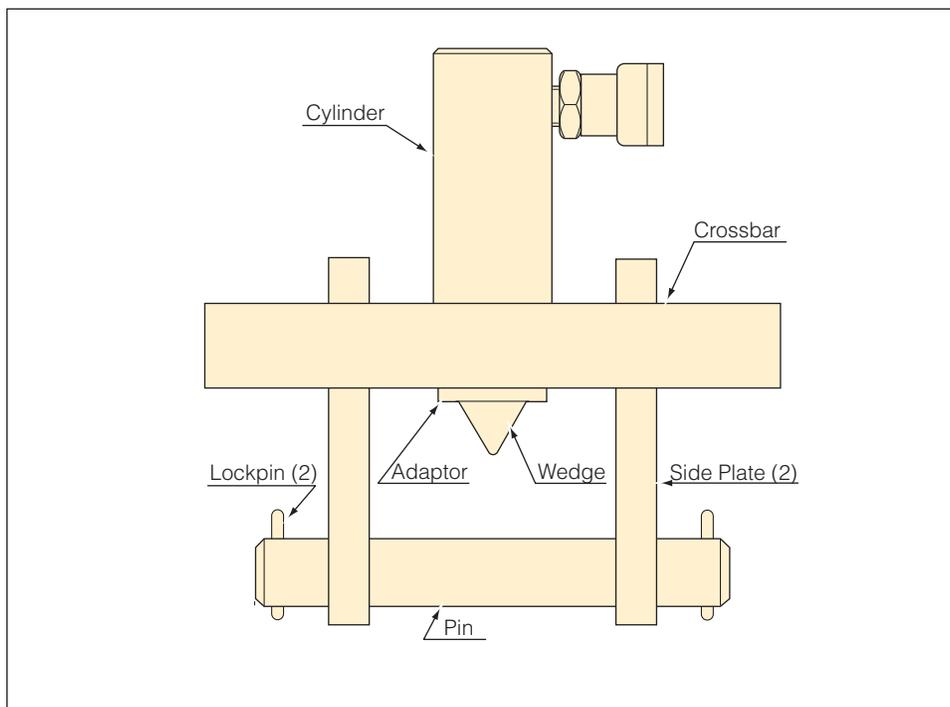

Figure 1
1. Before assembly, identify all component parts included with the set. Refer to the Flange Spreader Selection Chart for identification of the component parts and to Figure 1 to aid in the assembly procedure.